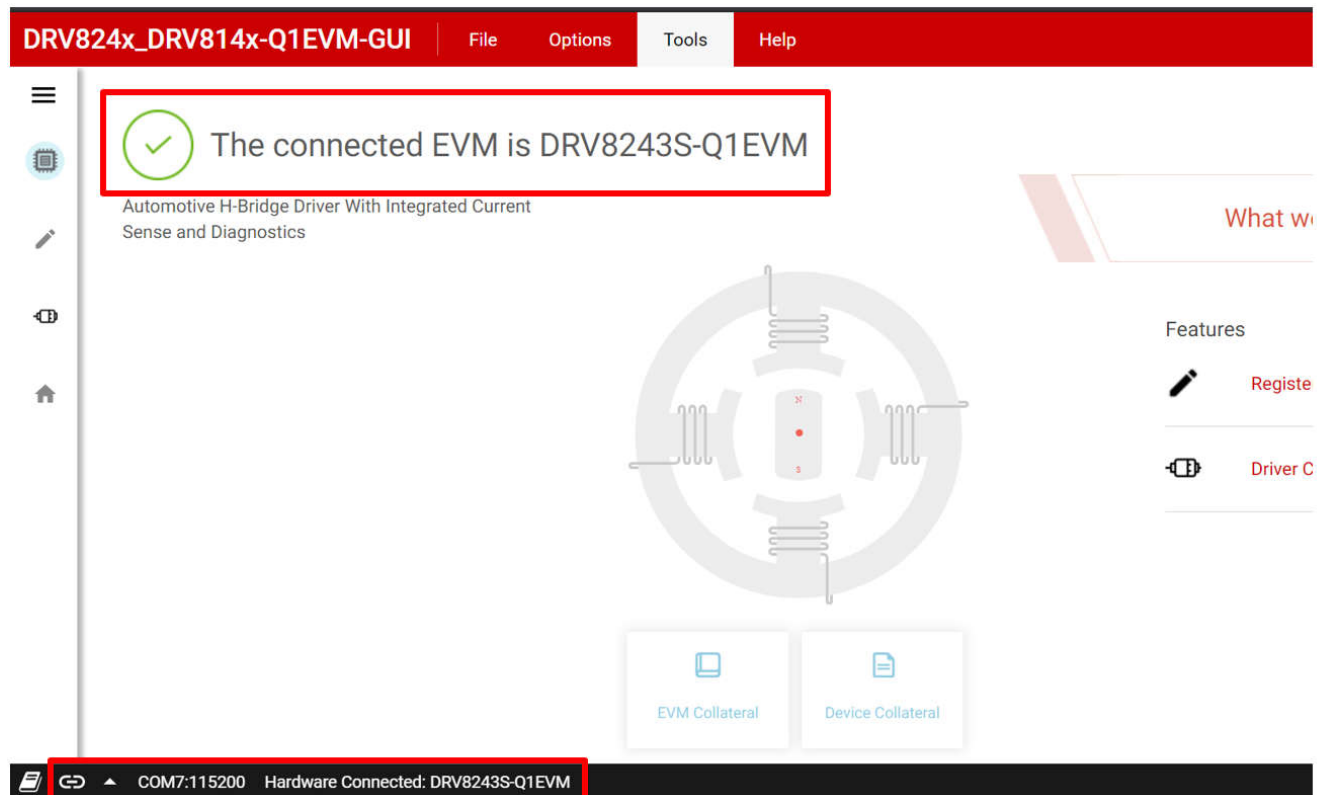

**Figure 4-1. DRV824x\_DRV814x-Q1EVM GUI Home Screen**
2. From the screen referenced in Figure 4-1, select the EVM variant connected using the icons on the right.